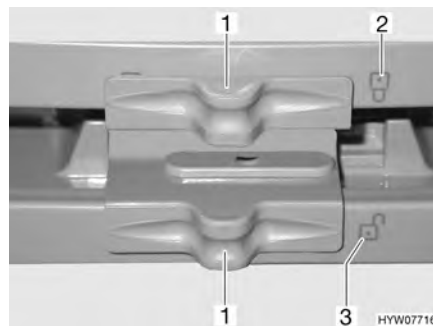

Fig. 144 Locking of the refrigerator door/freezer compartment door (Dometic 7 series with separate freezer compartment)
- Push the lock (Fig. 144,1) to the side, so that the open lock  (Fig. 144,3) is completely visible.
- Push the lock (Fig. 144,1) to the side, so that the closed lock  (Fig. 144,2) is completely visible.